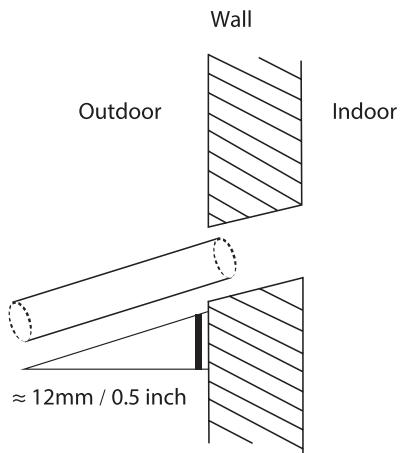

Fig. 6.4
3. Using a 65-mm (2.5") core drill, drill a hole in the wall. Make sure that the hole is drilled at a slight downward angle, so that the outdoor end of the hole is lower than the indoor end by about 12mm (0.5"). This will ensure proper water drainage (See Fig. 6.4). Place the protective wall cuff in the hole. This protects the edges of the hole and will help seal it when you finish the installation process.